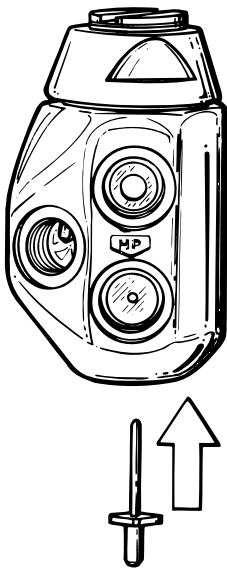
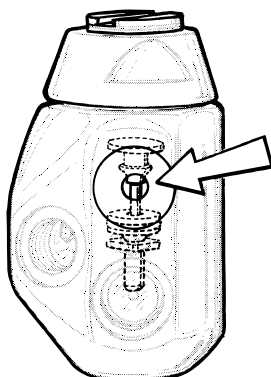
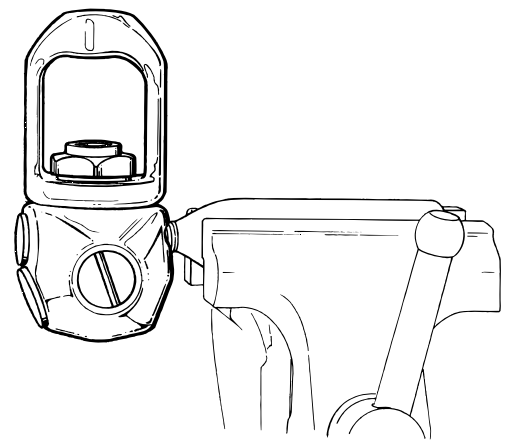

Fig. 6a
Fig. 6b
Fig. 7
12. While holding the high pressure seat(13) by its stem, insert the pin(24) into the center opening. Hold the first stage above the pin with the high pressure side facing down, and carefully align the end of the pin with the opening of the crown inside (see Fig. 6a). Gently guide the pin and seat into the first stage body so that the pin passes through the crown and into the bottom of the pin support, which can be sighted through one of the low pressure ports (see Fig. 6b). When the pin is securely seated between the pin support and high pressure seat, turn the first stage over and stand it on a padded surface with the high pressure side facing up.
13. Insert the backup ring(16) into the high pressure spring block(17), and gently tamp it into place with a non-metallic probe so that it is seated evenly and flat inside. Then, generously lubricate and install the O-ring(15) into the spring block, directly over the backup ring.
15. Install the O-ring(18) onto the end plug(19), and mate the end plug into the body, directly over the spring and spring block assembly. Turn the end plug clockwise by hand until snug.
- A. Install the O-ring(6) into the recessed groove inside the inlet fitting(7).
- B. Install a new filter(5) into the yoke retainer with the conical portion facing downward, and press it firmly into place so that it seats inside the O-ring. Using internal circlip pliers, install a circlip(4) to secure the filter.
- C. Mate the inlet fitting through the yoke(8) and into the inlet of the first stage body. Tighten clockwise by hand until snug.
- D. Secure the vise mounting tool in a vise so that the first stage is horizontal and the yoke faces up (see Fig. 7). Apply a torque wrench with 26mm crow-foot to tighten the yoke retainer to a torque measurement of 20 ( $\pm 2$ ) foot-lbs. Loosen the vise to remove the first stage, and remove the vise mounting tool.
- E. Install the O-ring(3) into the dust cap(2). Wrap the cord that is tied to the dust cap around one leg of the yoke, and pass the cap through the loop to form a loose knot.